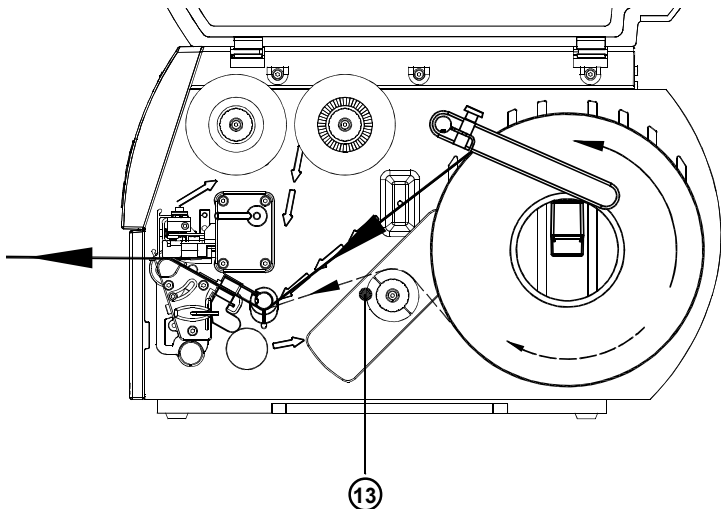

Fig. 7d Feed path in Tear-off Mode
3. Place the media roll (8) onto the media hub (9) and unwind a strip of media (4) from the media roll. When operating in the rewind or peel-off mode make sure that the strip is long enough to reach the internal rewinder by guiding it through the whole print mechanism and underneath of it. Make sure the labels between the media hub and the print mechanism are facing up. Slide the roll onto the media hub (9) until it stops.
4. Swing the media retainer (11) downwards until it touches the media hub (9). Push the media retainer against the supply role until it rests against the label media. Tighten the knurled screw (10).
5. Raise the printhead assembly (2) by rotating the lever (7) clockwise until it stops.
6. Slide the media guide ring (6) outward, allowing enough clearance for the label stock's width when loaded.
7. Slide the media strip underneath the guide axle (5) and through the adjustable photocell assembly (3) until it comes out of the front of the printer. If you are using labels that are wound-in, please make sure that you slide the media strip over the internal rewind hub (13). In figure 7d the feed path for labels wound-out is represented by a solid line, and the feed path for wound-in labels is represented by a broken line.